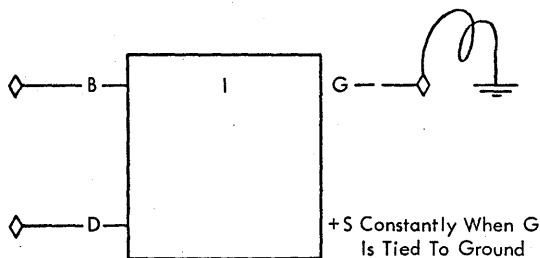

Figure 5-2. Holding an Inverter Output at +S
1. An inverter output may be kept at +S, regardless of its input, by grounding the output (See Figure 5-2).